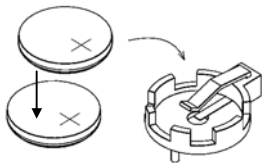

Fig. 3.0
- ❑ Insert two CR2025 or two CR2016 batteries into the battery holder. Mind the polarity!, see figure 3.0